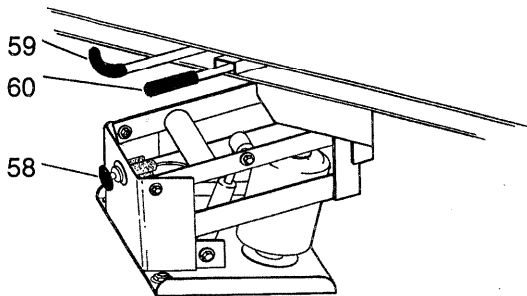

Fig. 3-13 Seat Adjustment Controls
58. Seat Height Adjustment Control See Fig. 3-13
See Fig. 3-13